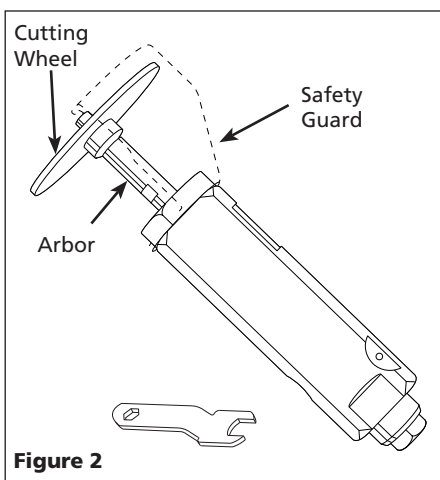

Figure 2
3. Center new cut-off wheel on arbor (See Figure 2). Make sure cut-off wheel is rated for RPM of air tool. **Securely tighten cap screw.**